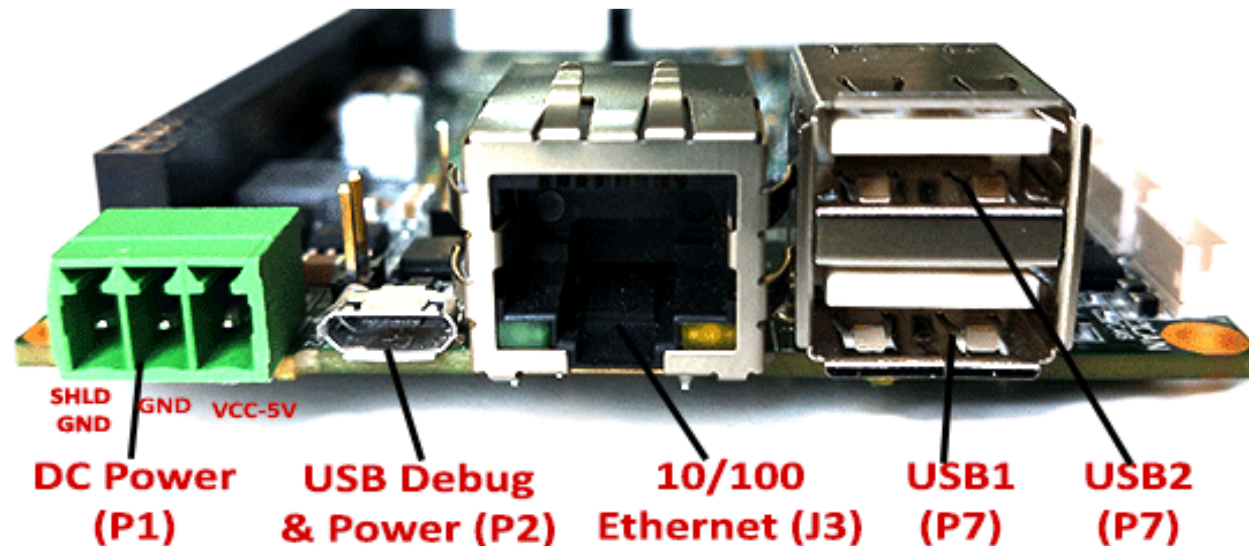

Fig 3: Front Panel
- This section describes the functional components of the RuggedBoard. Each subsection details a particular connector/interface and associated jumpers for configuring that interface. Figure 3 below shows the front side of RuggedBoard-A5D2x.